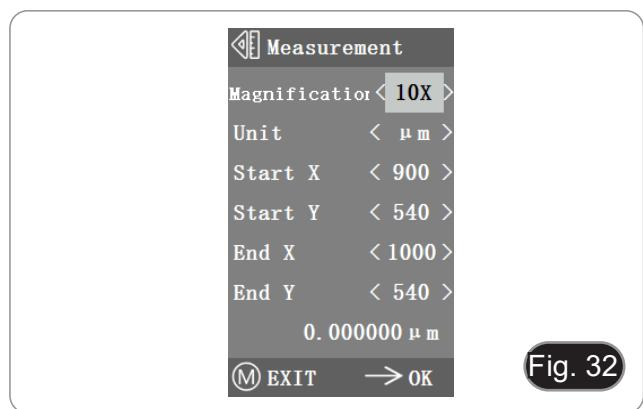

Fig. 32
3. Move the starting and ending point of X and Y position by pressing ← and →: the measurement length is displayed in real time. (Fig. 32)